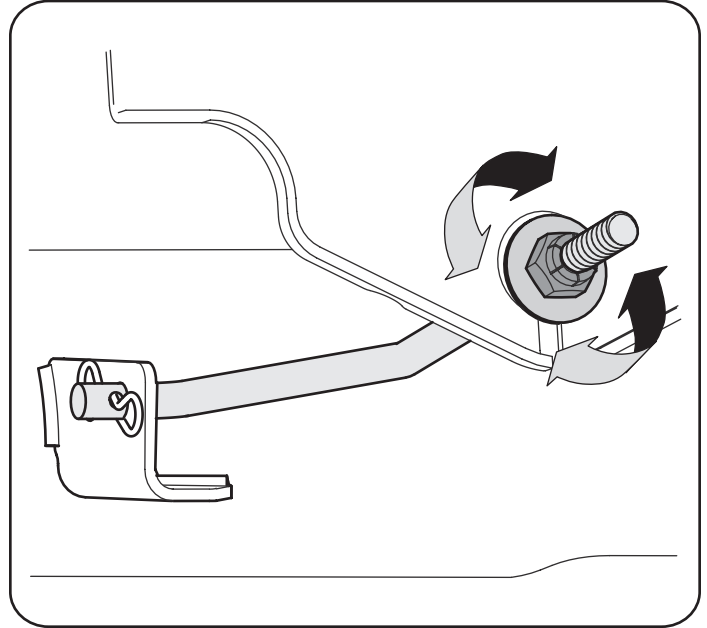

Figure 9
3. Locate the jam nut and lock nut on the front side of the stabilizer bracket. See Figure 9.